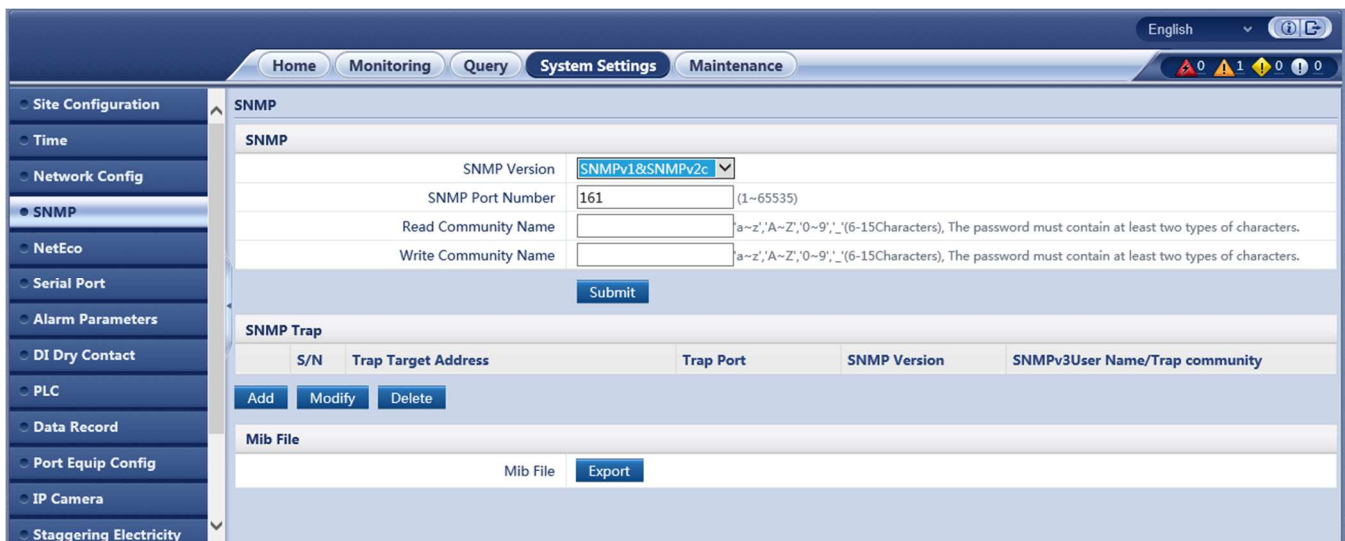

Figure 33 – Setting SNMPv1 and SNMPv2c Parameters
1. If the SNMP version is **SNMPv1** or **SNMPv2c**, set **SNMP Port Number**, **Read Community Name**, and **Write Community Name** as shown in Figure 33.